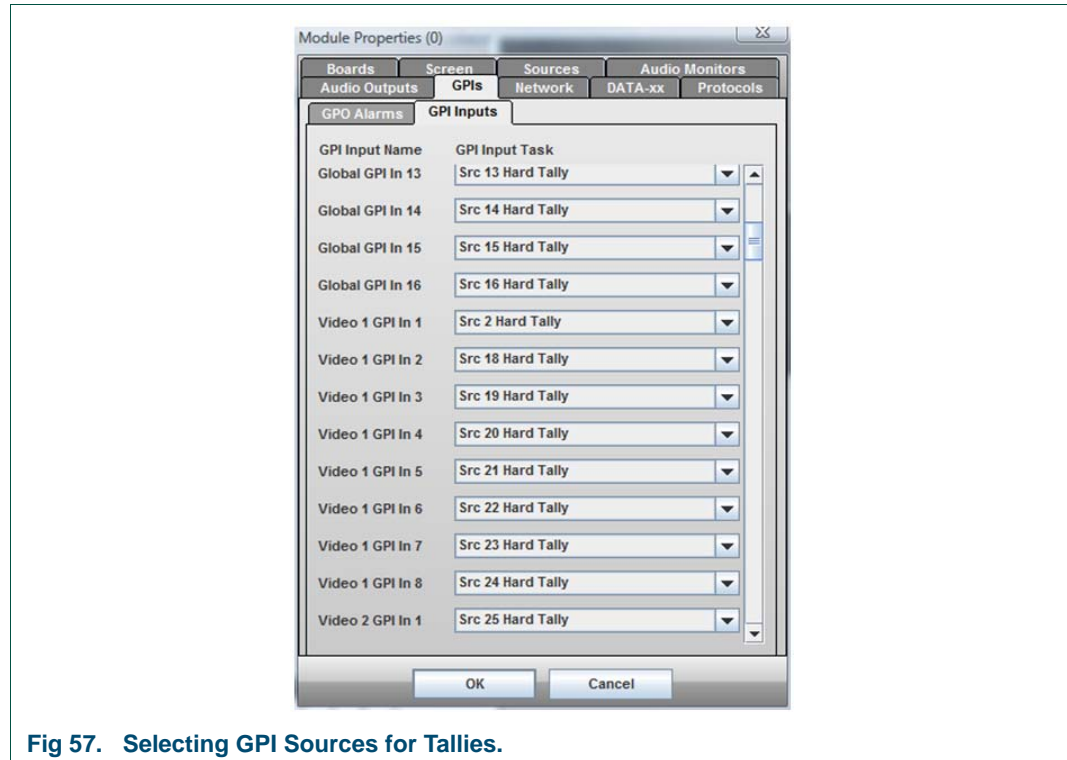

Fig 57. Selecting GPI Sources for Tallies.
4. This should now appear as shown in Fig 57.